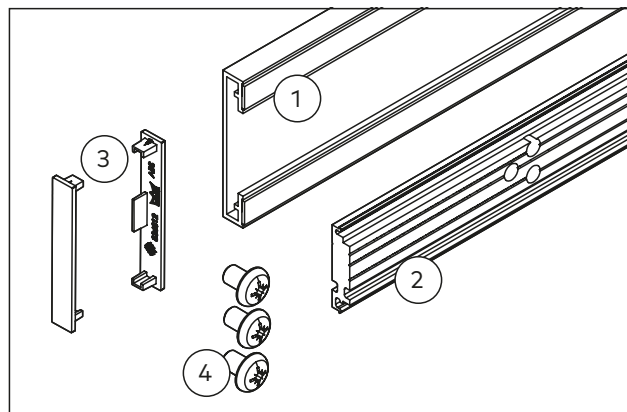

Fig. 3 Parts included with 12 mm door frame lining
- Counter-profile with gaskets (Fig. 3/1)
- Lining profile (Fig. 3/2)
- 2 x end caps for counter profile (Fig. 3/3)
- 3 x screws M8x12 (Fig. 3/4)